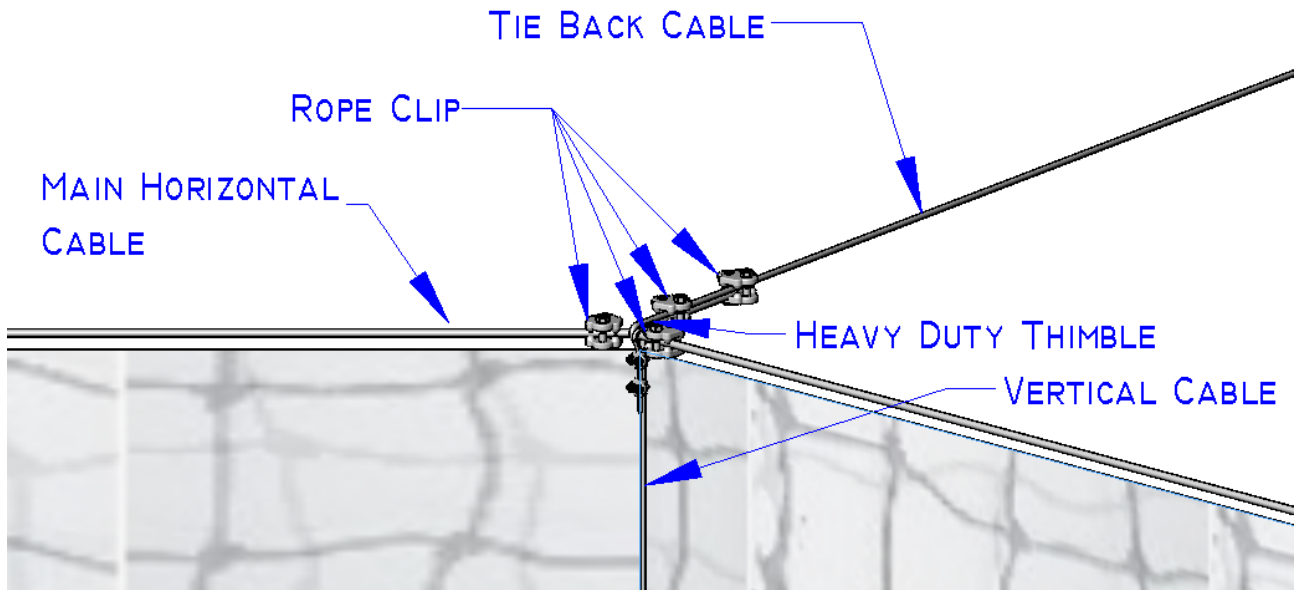

Figure 4. Tie back Cable Connection
2. Install all (4) bolts with Flat & Lock Washers, finger tight as pictured in Figure 4.